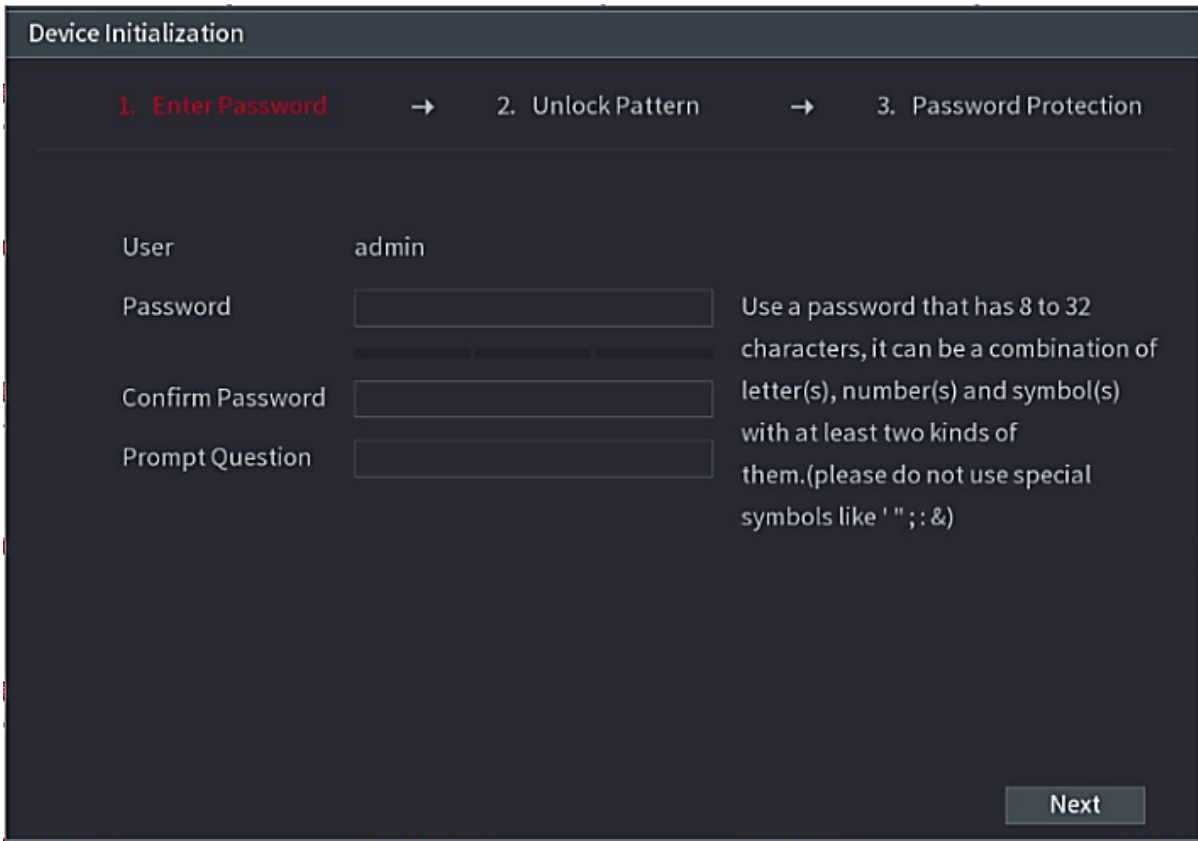

Figure 3-1
Step 1 Select **Main Menu** → **Network** → **InstaOn**, the **InstaOn Cloud** interface is displayed. See Figure 3-1.